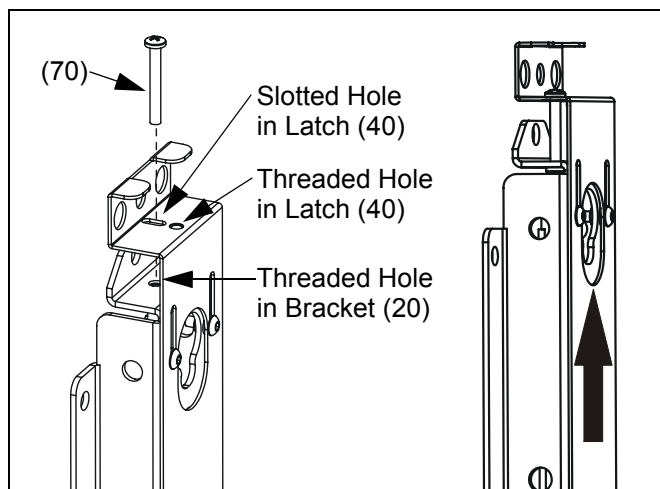

Figure 6: Open Latch
2. Repeat for remaining bracket (20).
3. Tighten screws (60) only as required to keep latches (40) from freely slipping on bracket (20). Latches are designed to slide; do not overtighten screws (60).
4. Slide latch (40) to fully open (raised) position.
5. Using Phillips screwdriver, install screw (70) through slotted hole in latch (40) into threaded hole in *bracket* (20) (See Figure 6). Tighten only as required to take up slack; overtightening will close latch preventing mounting button installation.
- If latch begins to close, loosen screw (70) and pull latch (40) to open position.
1. Ensure latches (40) are in fully open (raised) positions (See Figure 6).
2. Using Phillips screwdriver, fully remove screw (70) from threaded hole in bracket (20) (See Figure 6).
3. Re-install screw (70) into threaded hole in *latch* (40). Turn screw (70) until latch (40) slides into fully open position.
4. Repeat for second latch (40).
5. Lift and maneuver display mounting buttons (90) out of button openings.